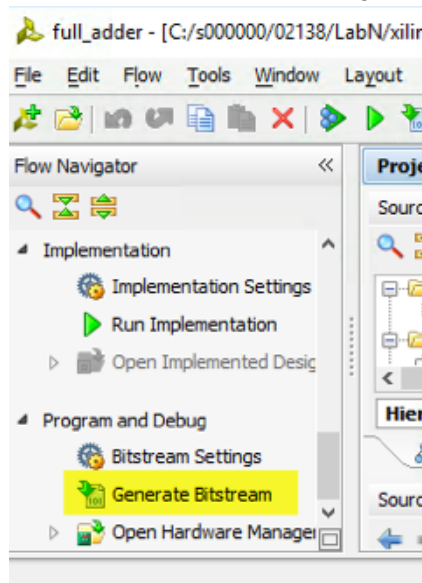

Figure 23. Generating the bit stream
26. Next we need to generate the bit file that we can upload to the FPGA. You can do this by going to the Flow Navigator (on the left side of the screen) and selecting "Program and Debug -> Generate bitstream" as shown in Figure 23. This will perform many steps. First the design will be synthesized, then it will be implemented and in the end a bit stream will be generated.